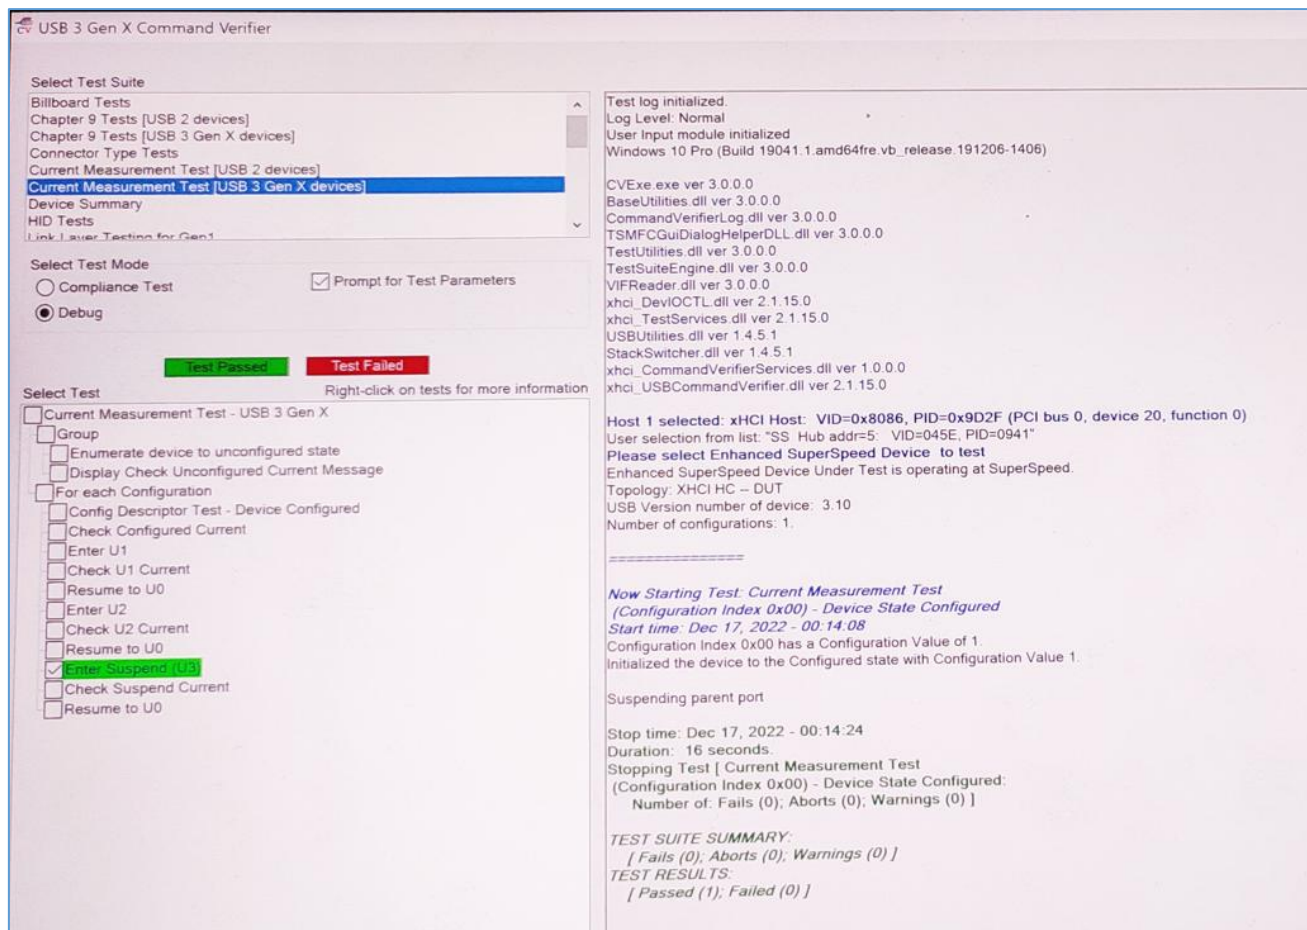

FIGURE 7.4: TEST RESULTS GENERATION IN CV TOOL FOR TD 4.9.1 ENTER SUSPEND (U3) TEST
3. The test results will be updated in the CV tool once the test execution is completed (Figure 7.4 below).